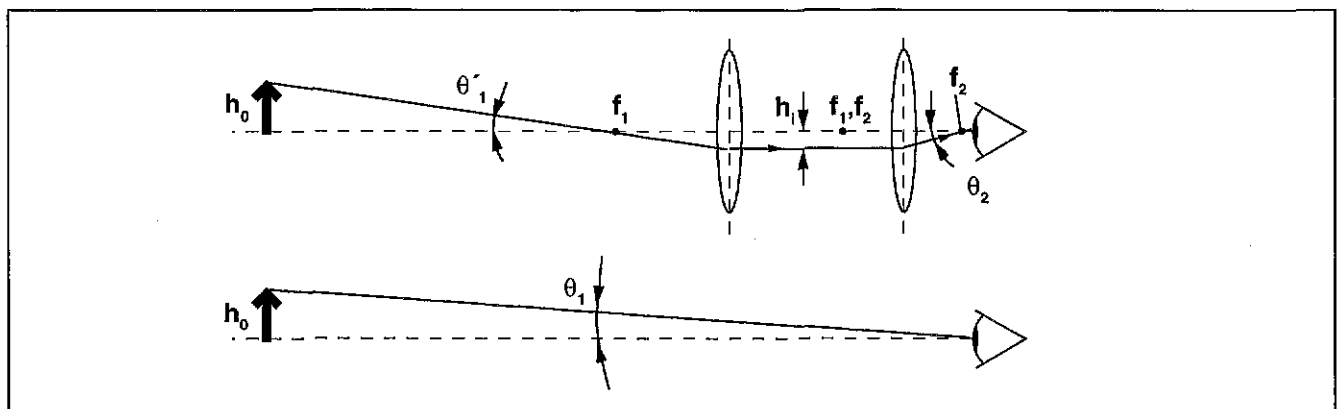

Figure 21.2 Telescope Magnification
The angular magnification (see Experiment 20: The Magnifier) for a telescope can be approximated by assuming the lenses are exactly $f_1 + f_2$ apart, as shown in Figure 21.2. The height of the object as seen with the naked eye is proportional to the angle θ_1 in the lower diagram. If the distance from the object to the telescope is large—much larger than is shown in the diagram— $\theta_1 = \theta_1'$, to a good approximation. The ray shown in the upper diagram passes through the focal point of the objective lens, comes out parallel to the optical axis of the telescope, and is therefore refracted by the eyepiece through the focal point of the eyepiece. The angle θ_2 is therefore proportional to h_1 , the height of the image seen by the observer.
- ① Using Figure 21.2, calculate $\tan \theta_1$ and $\tan \theta_2$ as a function of the height of the image, h_1 , and the focal lengths of the two lenses, f_1 and f_2 .